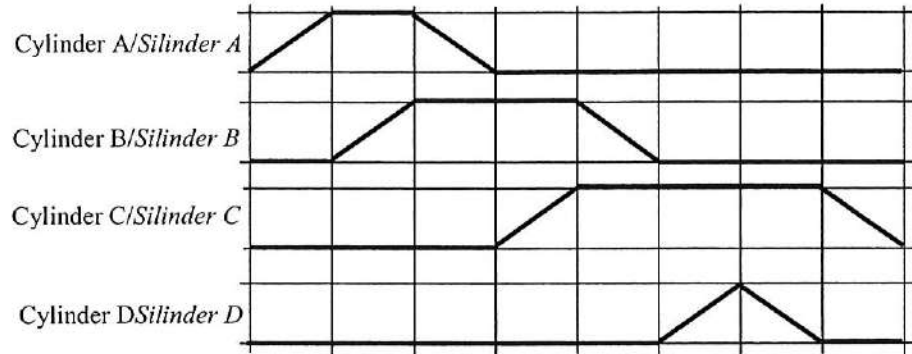

Figure 4 / Rajah 4
- (b) Draw the pneumatic circuit that can activate cylinder A, B, C and D, using cascade method as shown in the step diagram Figure 4.